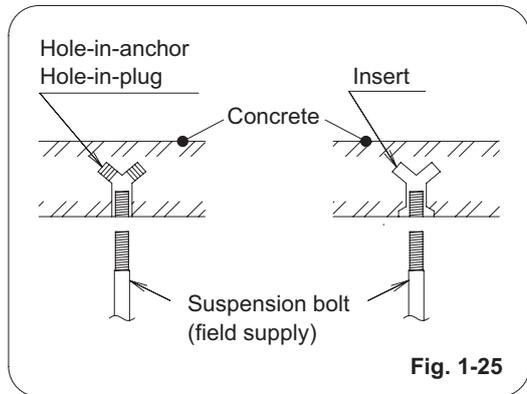

Fig. 1-25
- (1) When placing the unit inside the ceiling, determine the pitch of the suspension bolts referring to the dimensional data given previously. Tubing must be laid and connected inside the ceiling when suspending the unit. If the ceiling is already constructed, lay the tubing into position for connection to the unit before placing the unit inside the ceiling.
- (2) Screw in the suspension bolts allowing them to protrude from the ceiling as shown in Fig. 1-25. (Cut the ceiling material, if necessary.)